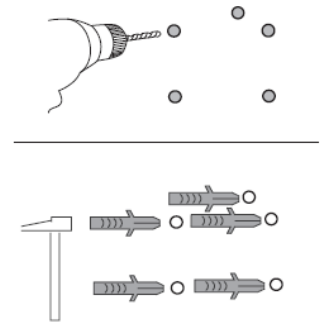

Figure 3
5. Drill 5 holes at marked locations and insert 5 plastic anchors into drilled holes (Fig. 3).